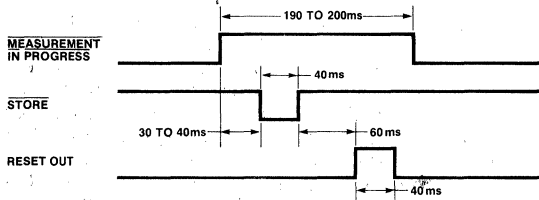

Figure 5: RESET OUT, STORE, and MEASUREMENT IN PROGRESS Outputs Between Measurements.
- These Outputs are provided to facilitate external interfacing. Figure 5 shows the relationship between these signals during the time between measurements. All three outputs can drive a low power Schottky TTL load. The **MEASUREMENT IN PROGRESS** output can directly drive one ECL load, if the ECL device is powered from the same power supply as the ICM7226.